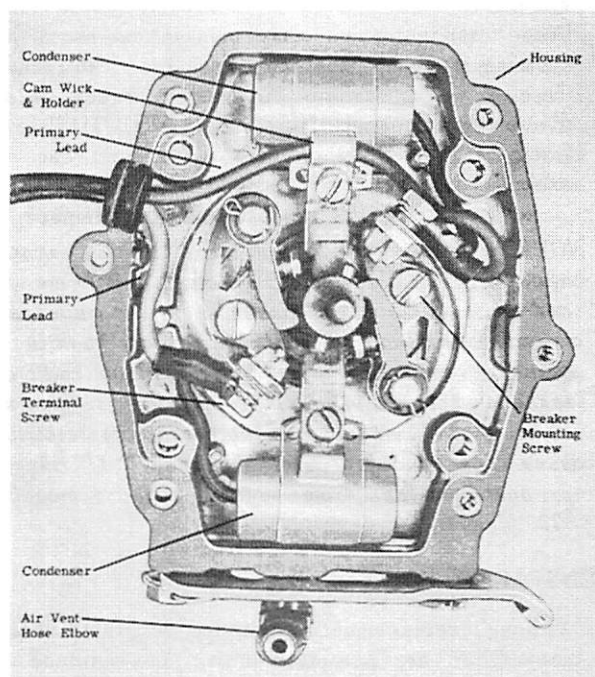

Figure 3. Distributor Open for Checking
6. Separate housing adaptor from distributor frame and all working parts are accessible for checking or removal. (Figure 3)
NOTE: One condenser has cam wick and holder bracket which also holds one primary lead wire in place. (Figure 3)
3. Remove cotter pins and fibre washers from pivot pins. (Figure 3)